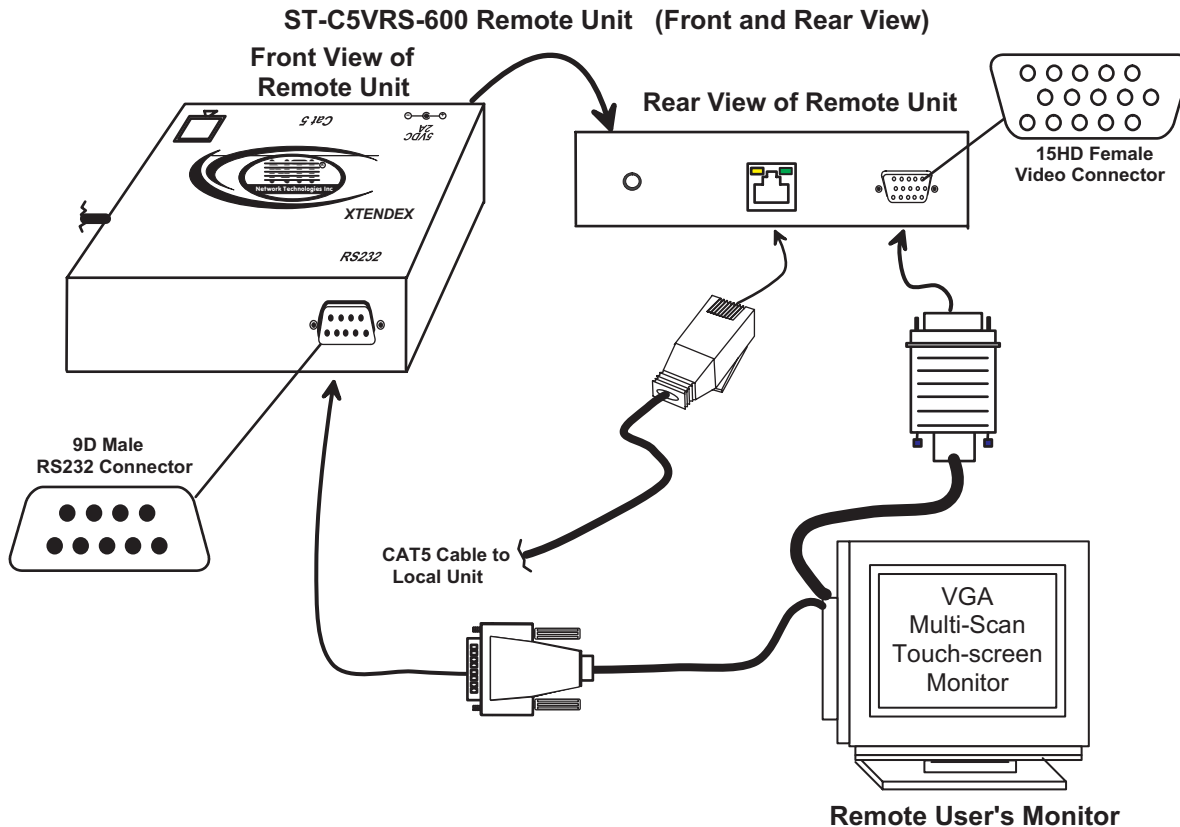

Figure 3- Connect the Extended Components to the Remote Unit
3. Connect the RS232 cable from a touchscreen monitor (see Fig. 3) to the male 9D connector on the Remote Unit.
4. Make sure the CAT5 cable has been installed in accordance with the "Preparation for Installation" instructions on page 3. Connect the CAT5 cable to the "Cat 5" port on the Remote Unit. (See Fig. 3.) When properly inserted the CAT5 cable end should snap into place.